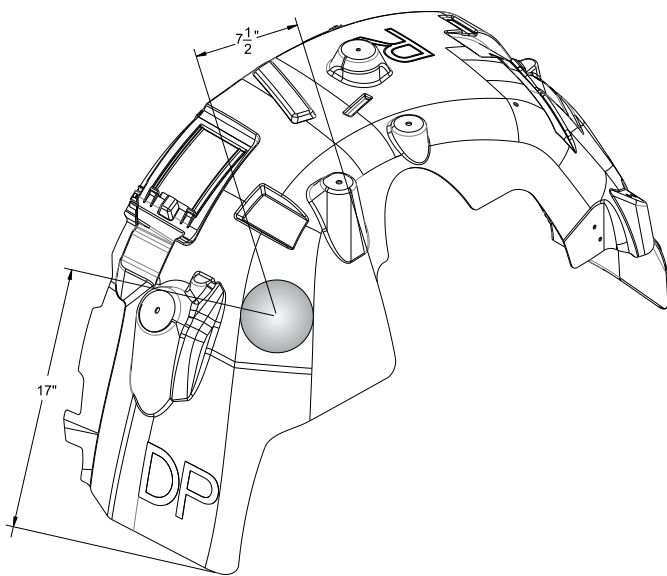

Figure 4.15
- The fender shall be heated (with a heat gun) and formed to provide 1" of clearance around coolant hose. See Fig. 4.15 for approximate location of point of contact (verify before forming).